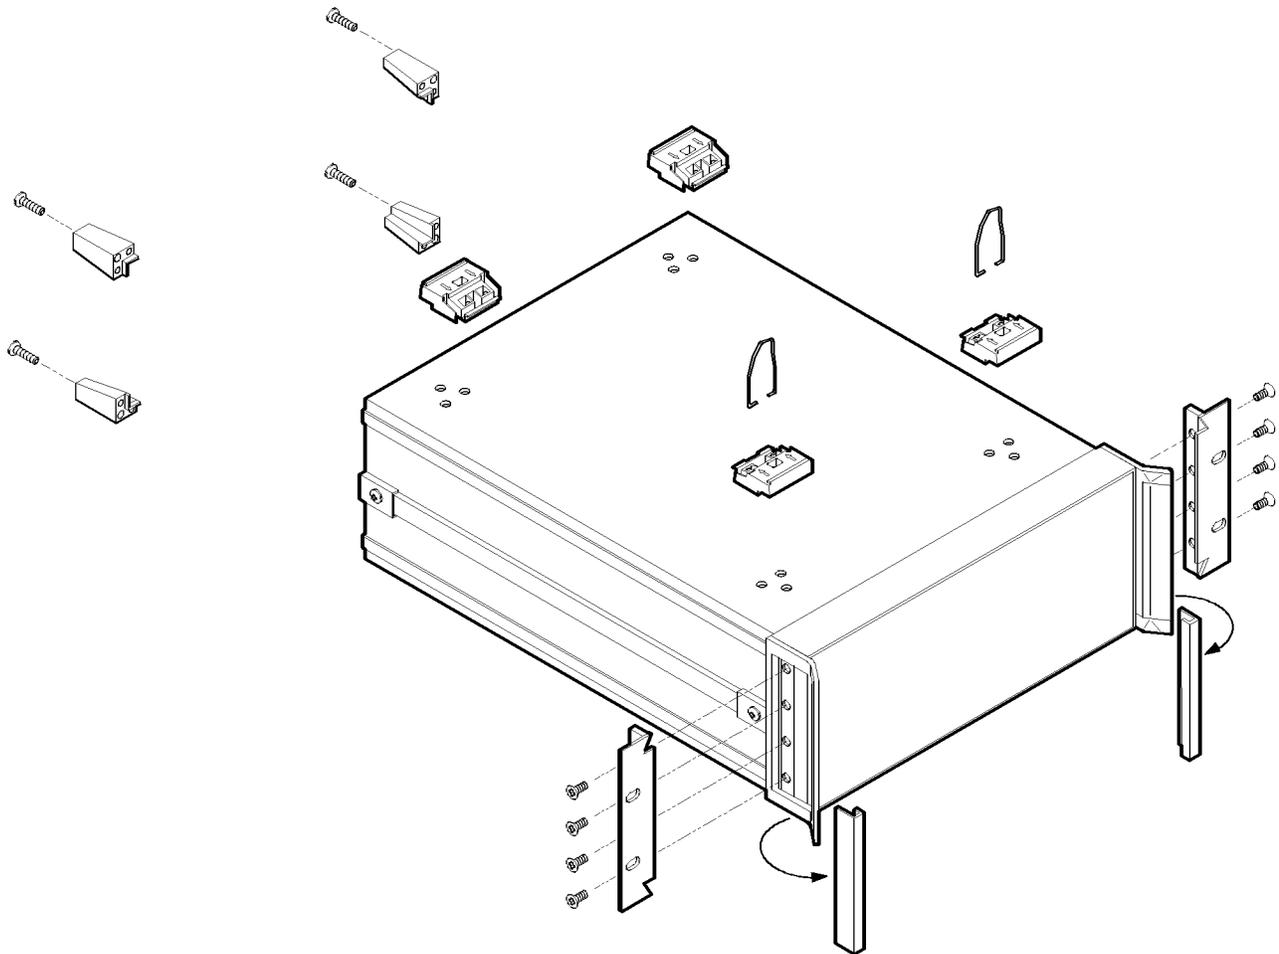

Figure 3-6. Rack Mount Flanges for Swept CW Generators with Handles Attached
1. Refer to Figure 3-6. Remove handle trim strips.